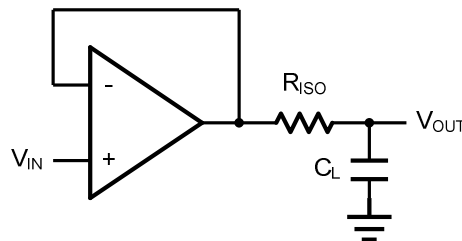
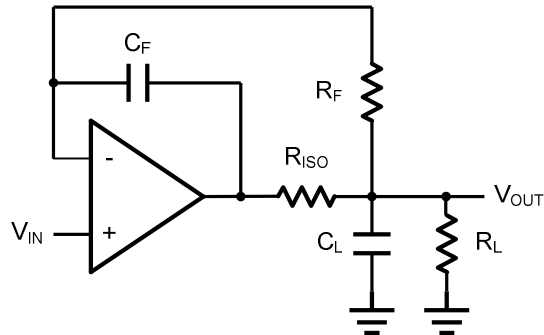

Figure 2. Indirectly Driving a Capacitive Load Using Isolation Resistor
Figure 3. Indirectly Driving a Capacitive Load with DC Accuracy
The LMV321 family is optimized for bandwidth and speed, not for driving capacitive loads. Output capacitance will create a pole in the amplifier's feedback path, leading to excessive peaking and potential oscillation. If dealing with load capacitance is a requirement of the application, the two strategies to consider are (1) using a small resistor in series with the amplifier's output and the load capacitance and (2) reducing the bandwidth of the amplifier's feedback loop by increasing the overall noise gain. Figure 2. shows a unity gain follower using the series resistor strategy. The resistor isolates the output from the capacitance and, more importantly, creates a zero in the feedback path that compensates for the pole created by the output capacitance.
The circuit in Figure 3 is an improvement to the one in Figure 2. R_F provides the DC accuracy by feed-forward the V_{IN} to R_L . C_F